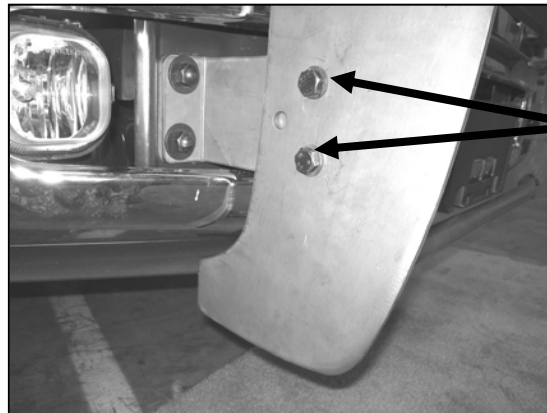

Figure 3
- With help position Grille Guard on the outer side of Mounting Brackets. Attach Grille Guard to Mounting Brackets using the included (4) 12- 1.75mm x 30mm Hex Head Bolts, (4) 12mm Nylock Nuts, and (8) 12mm Thick Flat Washers (Figure 3). Do not tighten at this time.